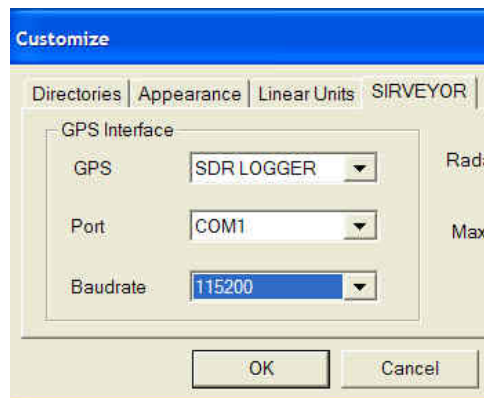

Figure 9: GPS Setup window.
- 5** You should select the following settings in the GPS Interface portion of the window (Figure 9).